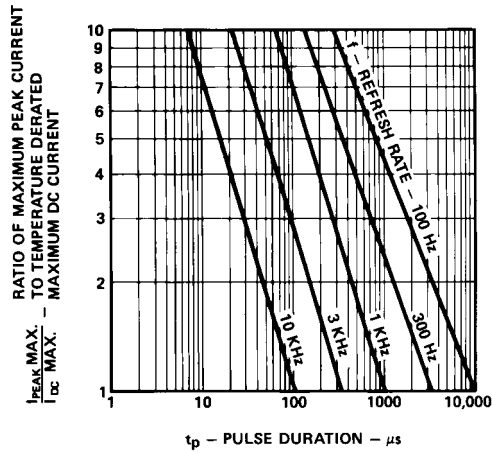

Figure 6. Maximum Tolerable Peak Current vs. Peak Duration (I_{PEAK MAX} Determined from Temperature Derated I_{DC MAX}).
2. Refer to Figure 6 to establish pulsed operating conditions.